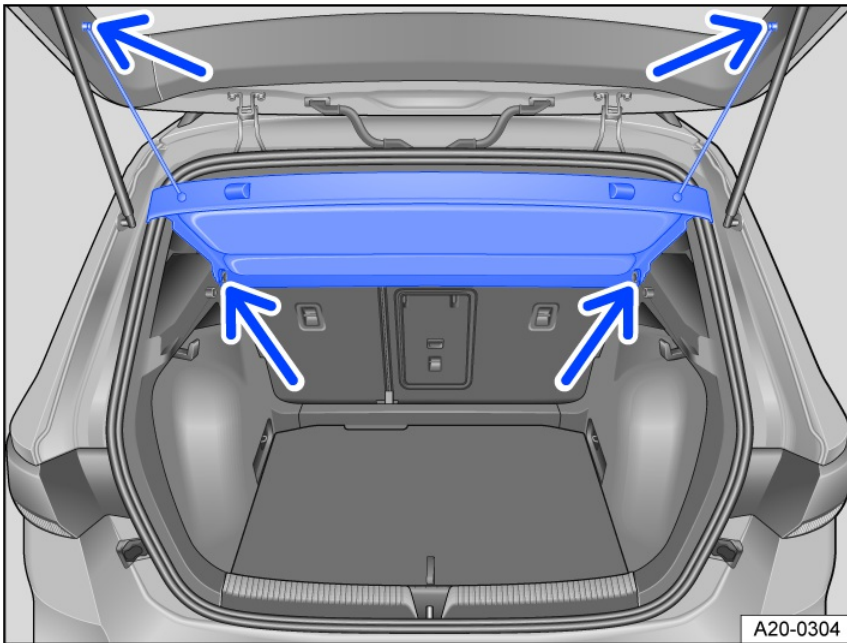

Fig. 125 In the luggage compartment: Installing and removing the luggage compartment cover.
1. Unhook the top retaining straps from the trunk lid *fig. 125* (upper arrows).
3. Press the luggage compartment cover out of the lateral brackets in the luggage compartment *fig. 125* (lower arrows).
1. Press the luggage compartment cover into the side holders in the luggage compartment *fig. 125* (lower arrows).
2. Hook the retaining straps onto the trunk lid *fig. 125* (upper arrows).